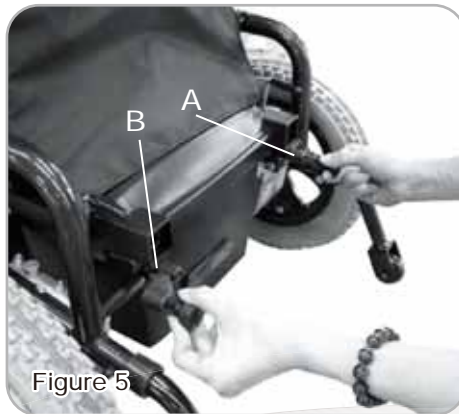

Figure 5
Pull two Pull Handles upward from the Holder (A) and (B), then turn outward to take out the battery.(See Fig. 5)